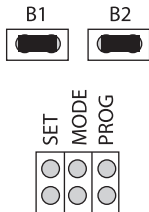

Fig. No 12
4. Set the jumpers on B1 and B2 pins. See Fig. No. 12 for correct jumper position.